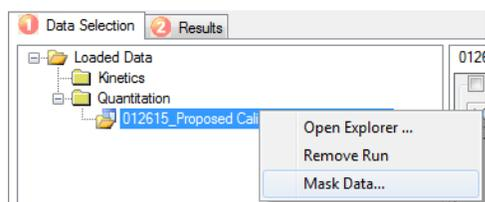

Figure 5-63: Selecting Mask Data Option.
2. Select **Mask Data** (Figure 5-63).